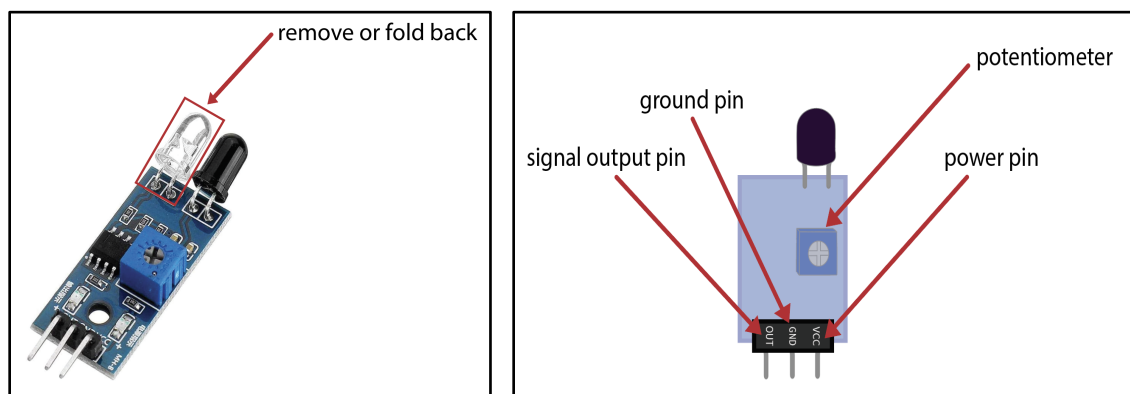

Figure 1. IR photodiodes.
- Have 9 photodiodes at hand. Remove or fold back the clear LED from the photodiodes (**Fig. 1**; these LEDs will not be used in RetINaBox). These photodiodes will be powered with a constant 3.3V from the Raspberry Pi, and the Raspberry Pi will also independently read the output signal from each photodiode (i.e. whether the photodiode is detecting light or not). Each photodiode board contains a potentiometer, which will be used to adjust light sensitivity (outlined below).